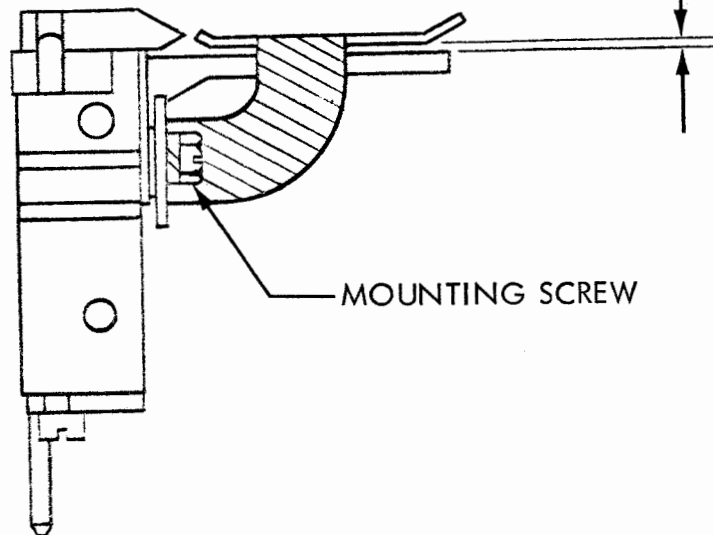

FIGURE 3
- a. Make the adjustment shown on Figure 3.